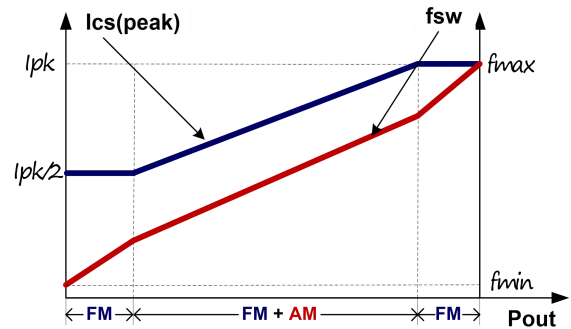

Fig.3
To meet the tight requirement of averaged system efficiency and no load power consumption, a hybrid of frequency modulation (FM) and amplitude modulation (AM) is adopted in CT5600 which is shown in the Fig 3.